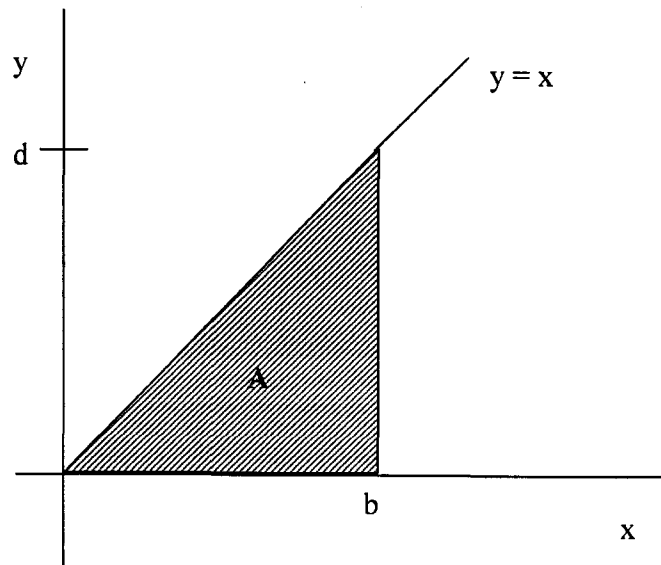

Figure 2
2. (a) For Figure 2, determine the following using integration method.